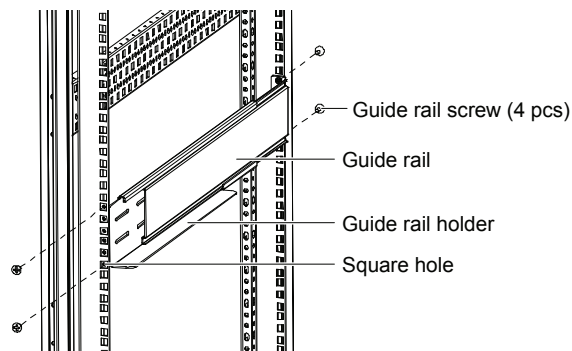

Figure 2-9 Installing guide rail
3) Align the installation holes of the guide rail with the square holes of the rack, fix the guide rail to the rack through the guide rail screws (a total of eight), each left guide rail and right guide rail need four guide rail screws, as shown in Figure 2-9.